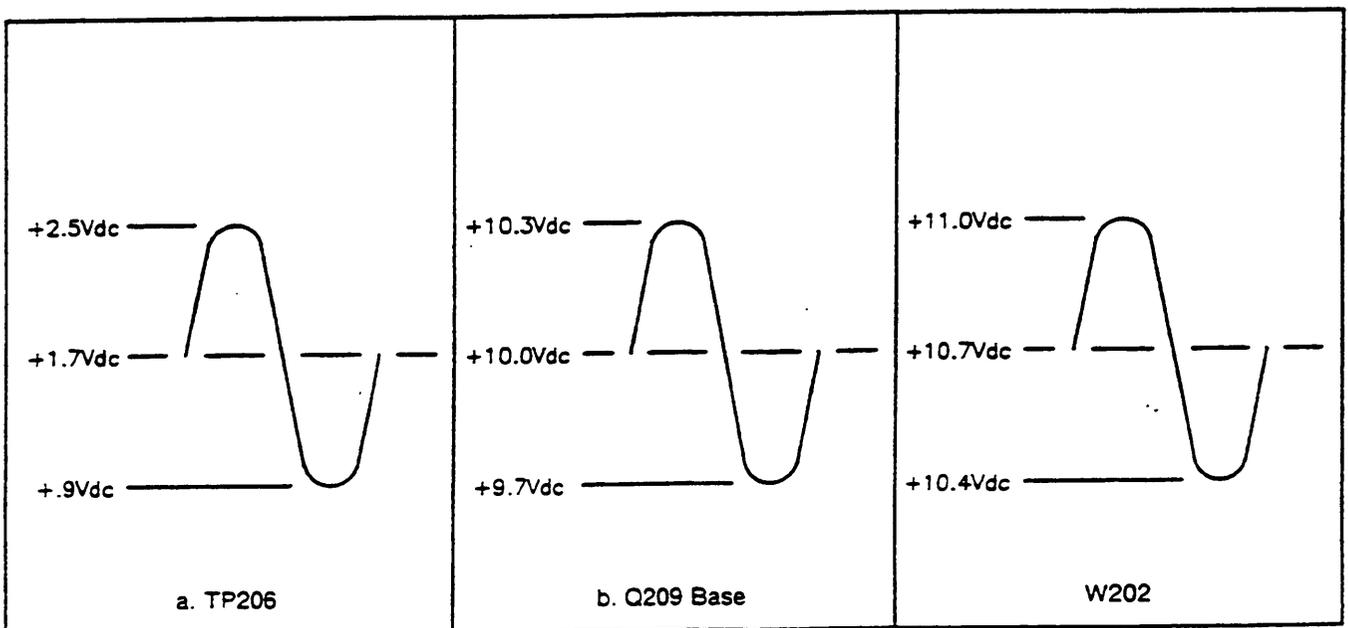

Figure 1. ALC Amplifier Waveforms and Logic Level.
6. Using the oscilloscope, check the waveforms as indicated in Figure 1.